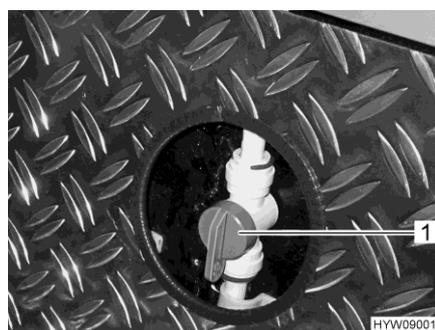

Fig. 172 Inlet valves (rear garage heating)
- Adjust the handle (Fig. 172,1) on the inlet valve for the rear garage heating so that it is parallel to the heating pipe. The rear garage heating is now working at maximum power.
- Set the handle (Fig. 172,1) on the inlet valve for the rear garage heating to the desired position. This enables the hot water distribution to the rear garage to be continuously adjusted.
- Set the handle (Fig. 172,1) on the inlet valve for the rear garage heating so that it is horizontal to the heating pipe. The rear garage heating is now switched off.